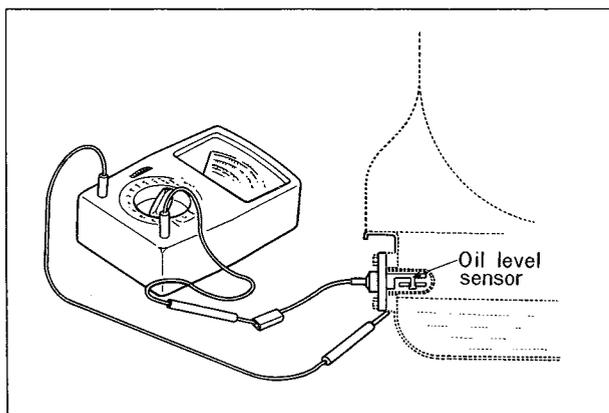

Fig. 2-3 Checking oil level sensor
3. Connect the circuit tester to the level sensor as shown in Fig. 2-3, and check the continuity by moving the float up and down.